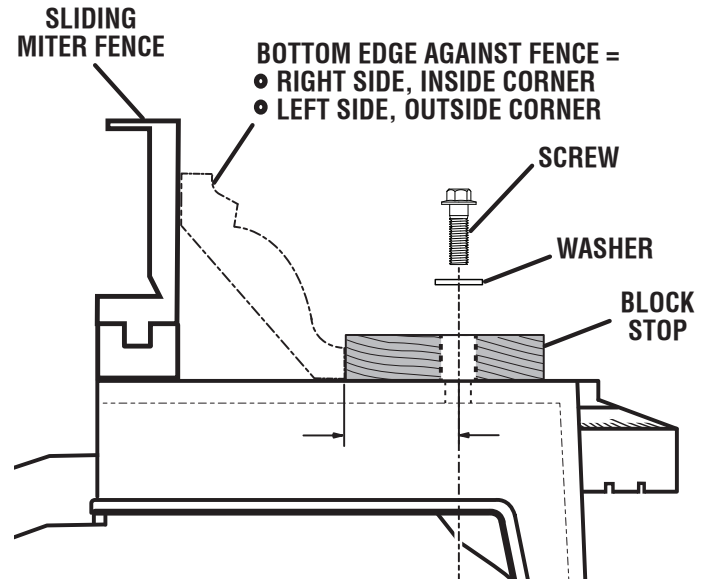

Fig. 34
See Figures 34 - 35.
- Nest and secure the crown molding against miter fence and the block stop, as shown in figure 34.